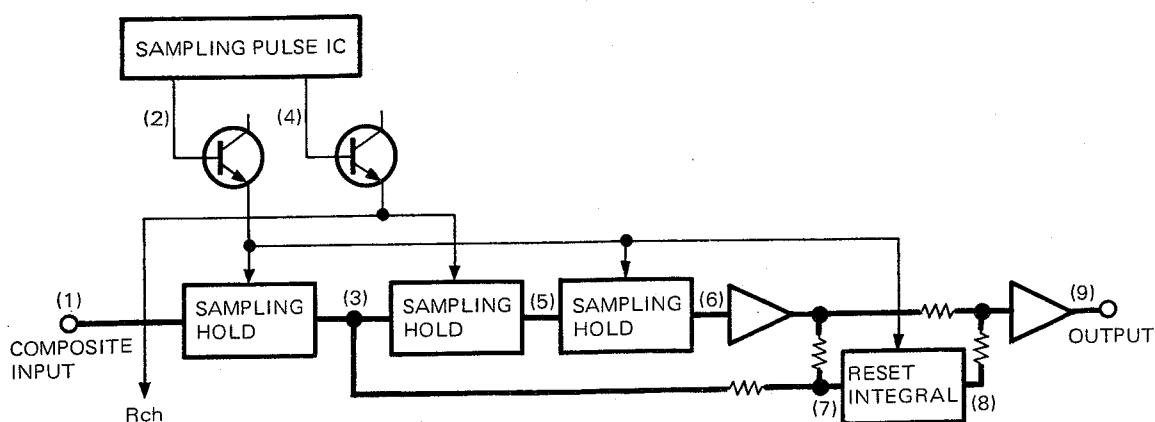

Fig. 4
IC6 (Pins 5~7),Q13~16 : L-ch driver. 1/76 mS delay. Waveform (3) \rightarrow (5). See Figure 4.